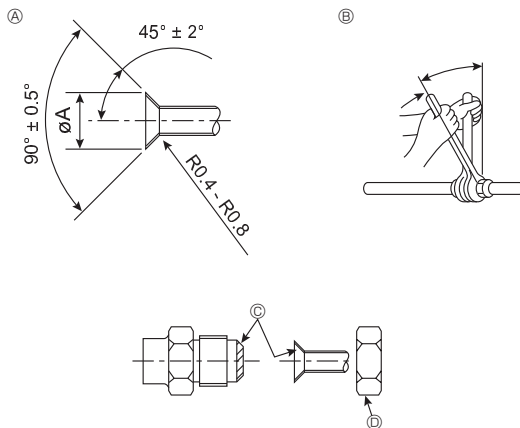

Fig. 3-2
3.3. Connecting pipes (Fig. 3-2)